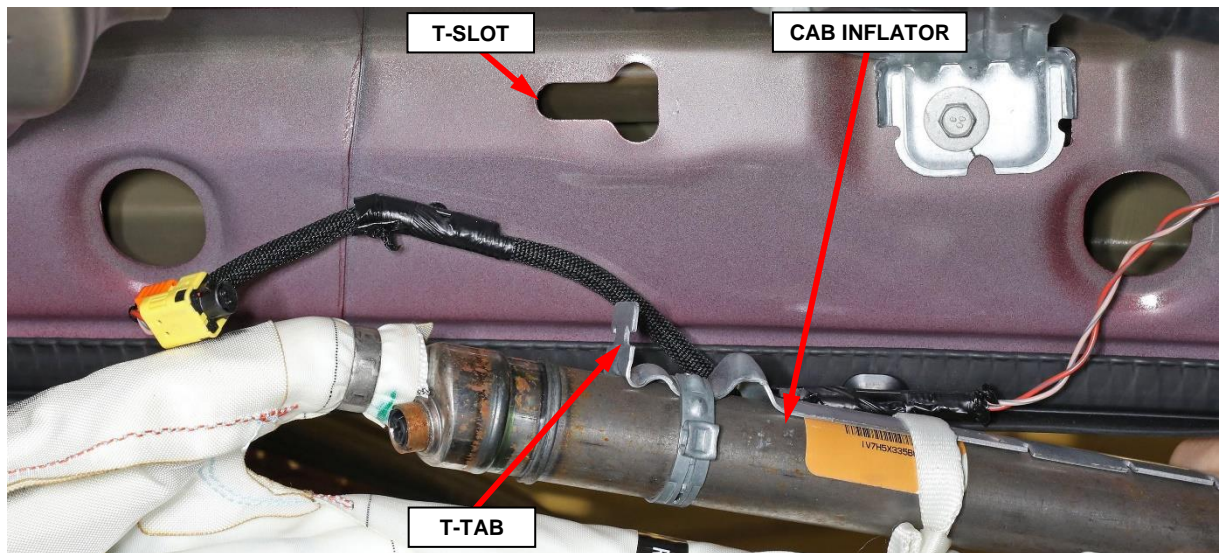

Figure 18 – CAB Inflator T-Tab and Inner Roof Rail T-Slot
30. Slide the inflator rearward far enough to disengage the T-tab at the front of the inflator bracket from the keyed T-slot in the inner roof rail over the rear door opening (Figure 18).
34. Insert the T-tab at the front of the inflator bracket into the keyed T-slot in the inner roof rail over the rear door opening and slide the inflator forward to engage it (Figure 18).